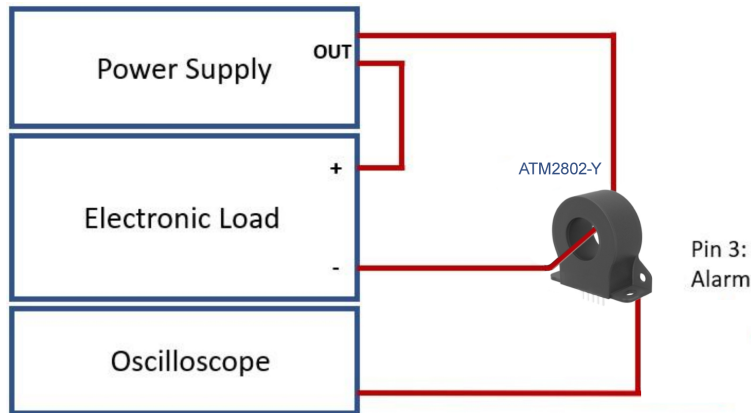

Figure 4: Test setup for 9.7.3.5
- Use the setup shown in Figure 4.